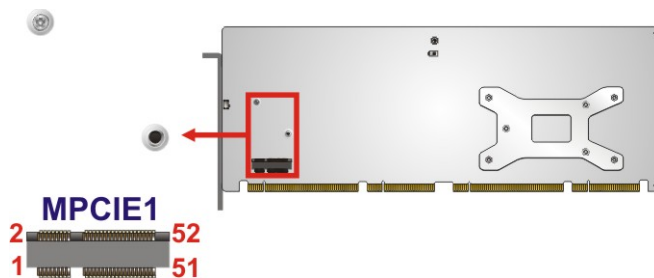

Figure 3-19: PCIe Mini Slot Location
- CN Location:** See **Figure 3-19**